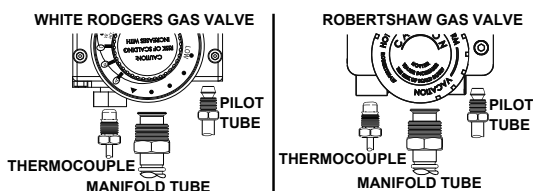

FIGURE 22.
6. Disconnect the thermocouple (right-hand thread), pilot tube, the igniter wire from the igniter button, the two connectors attached to the thermal switch, and manifold tube at the gas control valve/thermostat. (Figures 22 & 23.) NOTE: L.P. Gas systems use reverse (left-hand) threads on the manifold tube.
5. Disconnect the piezo igniter wire from the piezo igniter button. **NOTE:** There are two types of igniters. If you have the square igniter, slide the igniter bracket backwards away from the gas valve to remove it. If you have the round igniter, first remove the igniter from the bracket by depressing front and rear holding tabs and lift. Next remove igniter bracket from the gas valve. Disconnect the thermocouple, pilot tube, and manifold tube at the gas control valve/thermostat (Figure 22). **NOTE:** L.P. gas systems use reverse (left-hand) threads on the manifold tube.